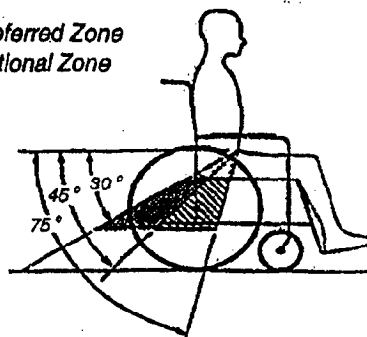

FIGURE 2 - ZONES OF PREFERRED AND OPTIONAL ANGLES FOR PELVIC BELTS
Correct positioning of occupant restraint belts are shown in **FIGURE 2**.
1. The pelvic belt should be worn low across the front of the pelvis, so that the angle of the pelvic belt is within the preferred zone of 45 to 75 degrees to the horizontal, or the optional zone of 30 to 45 degrees to the horizontal, as shown in **FIGURE 2**.